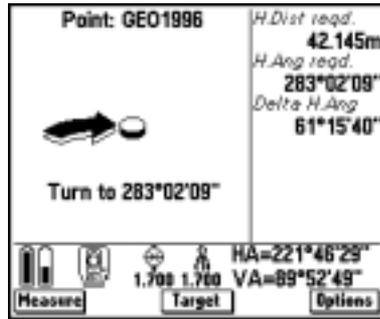

Figure 19.26 Initial screen of graphical display – stakeout
1. When you select a point to stake out, the stakeout graphical display screen appears. See Figure 19.26.